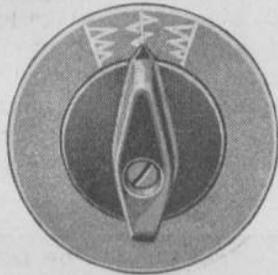

FIG. 22
*Important Note:* When using the plain sewing needle plate, the starting position knob (3), fig. 1 and fig. 22, must be at the "central" position as shown in that picture. For further details concerning the starting position knob, refer to page 13.
sition knob, fig. 22, is set in the "central" position of the dial as seen on the illustration. With the knob in this position, the machine will make zig-zag stitches which are central relative to the straight seam. See fig. 23.